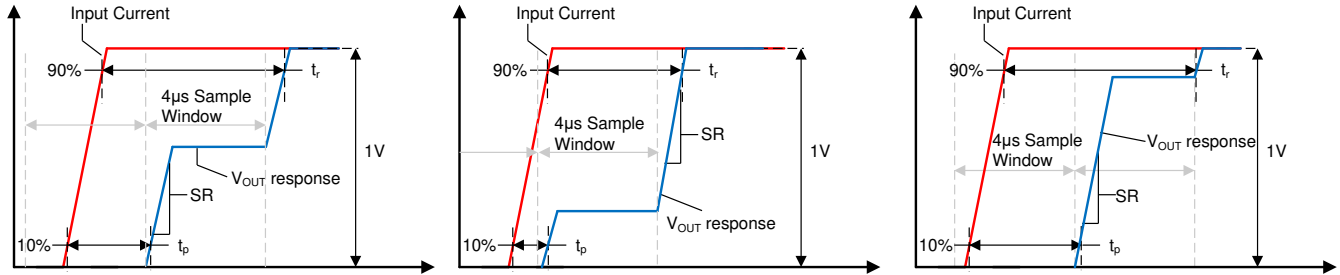

Figure 8-3. Small Current Input Step Transient Response
Slew rate (SR) is defined as the V_{OUT} rate of change for a single integration step's output transition, as shown in Figure 8-3. Because the device often requires two sampling windows to reach a full 90% settling of its final value, this slew rate is not equal to the 10%-90% transition time for the full output swing.
Propagation delay is the time period between the input current waveform reaching 10% of its final value and V_{OUT} reaching 10% of its final value. This propagation delay is heavily dependent upon the alignment of the input current step and the sampling period of the TMCS1101, as shown for several different sampling window cases in Figure 8-3.
Response time is the time period between the input current reaching 90% of its final value and the output reaching 90% of its final value, for an input current step sufficient to cause a 1-V transition on the output. Figure 8-3 shows the response time of the TMCS1101 under three different time cases. Unless a step input occurs directly during the beginning of one sampling interval the response time will include two sampling intervals.